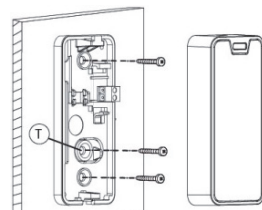

Figure 2
2. Mount the back cover (see Figure 2).